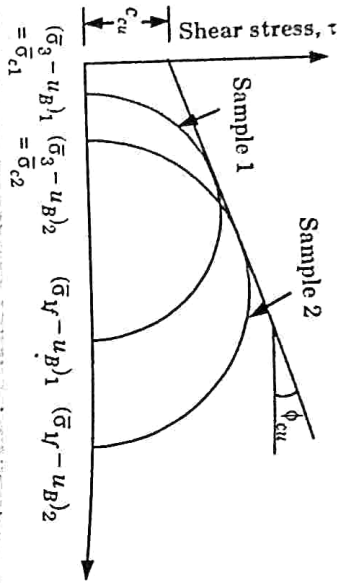

Fig. 4.20.2. Total stress failure envelope for c_u test.
4. The soil sample is sheared under this elevated cell pressure σ_3 and it fails at a vertical axial stress of σ_1 . Mohr's circles for determination of total stress parameters are drawn with $(\sigma_1 - u_B)$ and $(\sigma_3 - u_B) = \bar{\sigma}_c$ as major and minor total principal stresses at failure, respectively. The resulting failure envelope is shown in Fig. 4.20.2.